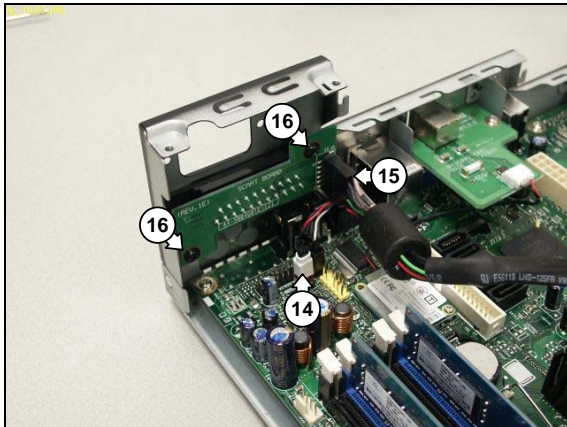

Figure 12.16-7
2. Disconnect the ADD2 SCART cable (14) from the motherboard. See Figure 12.16-7.
3. Disconnect the ADD2 SCART cable (15) from the SCART daughterboard. See Figure 12.16-7.
4. Remove the 2 mounting screws (16) from the SCART daughterboard. See Figure 12.16-7.